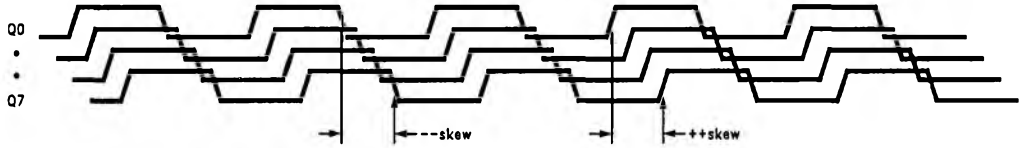

FIGURE 2. CGS801
**Note 2:** For CGS801 skew is measured at the 50% level of the rising or falling edge transitions across outputs from Q0–Q7. See *Figure 2*.